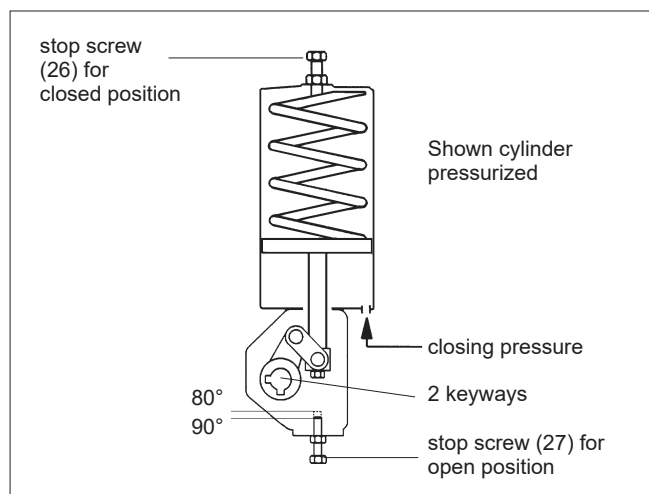

Fig. 7 B1JA actuator
Install the actuator on the valve with the piston in the lower end of the cylinder and the valve in the open position, see Fig. 7. The cylinder must be unpressurized and the air ports open. Adjust the open-position setting using the stop screw (27) at the bottom of the housing. The close-position setting is adjusted with the stop screw (26) at the end of the cylinder while the actuator is pressurized and the piston is in the upper position.